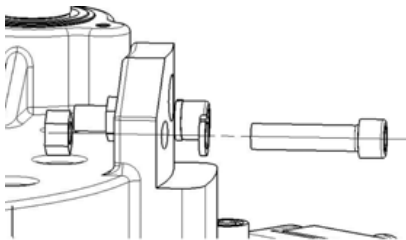
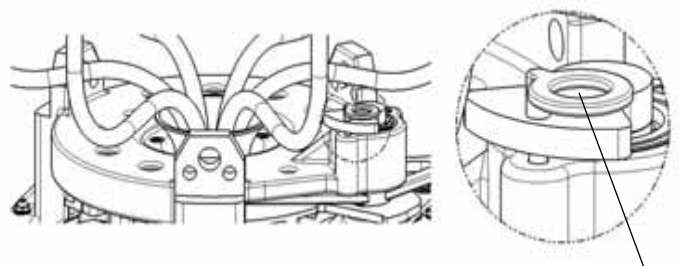

Figure 10 Remove hexagon socket bolt
Figure 11 Remove the positioning pin
- 1) Place the tap selector on a horizontal flat table. Remove tap selector's 6 pieces of M12 hexagon socket bolts (8mm wrench, Figure 10), spring washers, nuts, etc., and store them properly for use later. Then remove the positioning pin on the tap selector (Figure 11).